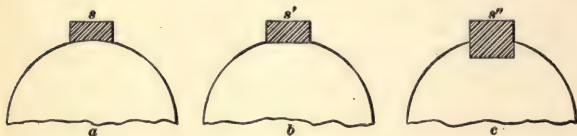

FIG. 40.
87. Keys for fastening pulleys to shafts in order to cause them to rotate together belong usually to one of the three classes shown in Fig. 40. The one shown at *a* is a concave key that is hollowed out to fit the shaft. As it holds the pulley by friction alone, it is only suitable for light work. In case such a key slips, its holding power can be increased a little by hollowing out its concave side to a radius smaller than
the radius of the shaft. The flat key is shown in Fig. 40 at *b*; a flat surface is cut on the shaft, and, consequently, the key is more effective than the concave key, as far as slipping under a rotative strain is concerned. The sunk key shown in Fig. 40 at *c* is the most effective, since it is impossible for the pulley to turn on the shaft without shearing off the key. Keys for fastening pulleys, etc. are usually given a taper of from $\frac{1}{8}$ to $\frac{1}{4}$ inch per foot.